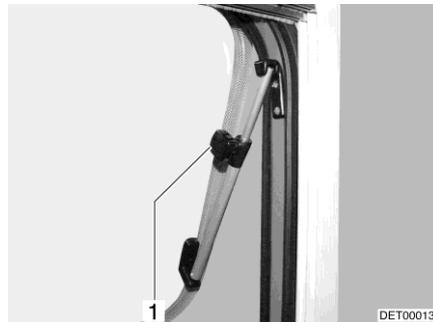

Fig. 123 Skylight with rotary hinges, open
- Open the skylight until the required position has been reached and use knurled knob (Fig. 123,1) to secure in position.
- Turn knurled knob (Fig. 123,1) until the latch is released.